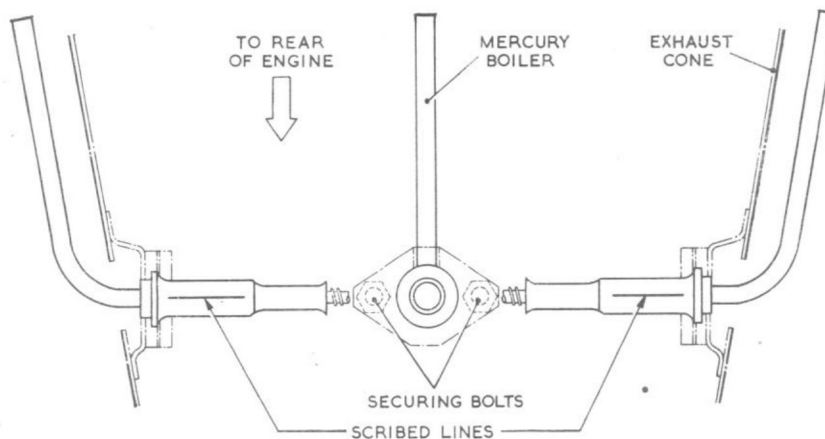

Fig. 7. Alignment of temperature control mercury boiler
- (3) Secure the fuel pump and temperature control to the engine auxiliaries mounting plate (para. 16, sub-para. (3)).
- (4) Lay the temperature control capillary tube in position and assemble the plain and slotted retaining plates to the mercury boiler.
(5) Place the aluminium washer in position on the exhaust cone, then insert the boiler complete with its retaining plates, making quite sure the tip of the bulb is facing directly into the exhaust stream.
(6) Check that the two setting marks on the shank of the boiler (Mod. MO 125) are aligned with the retaining bolts (fig. 7) then smear the retaining bolts with a little molybdenum disulphide and securely tighten down.
(7) Check that the run of the capillary tube is free and without tension, then refit the four retaining pipe clips.